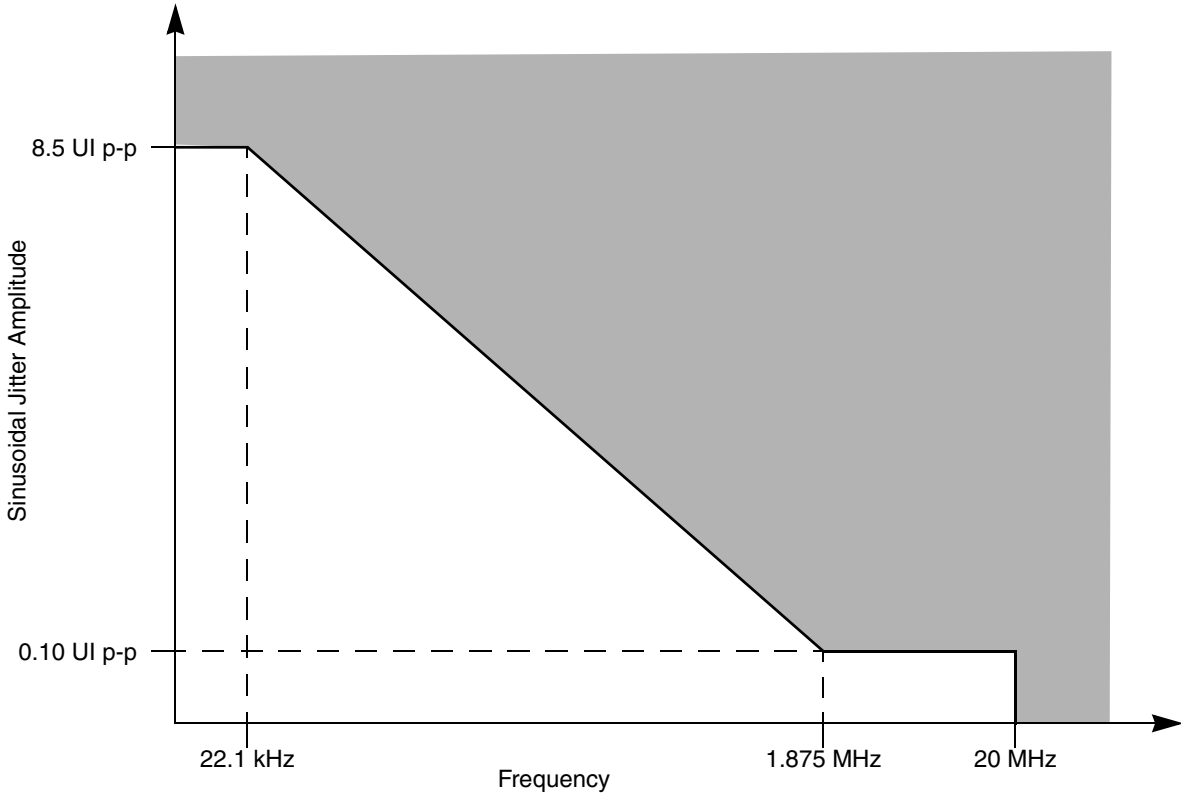

Figure 30. Single Frequency Sinusoidal Jitter Limits
- See Figure 30 for single frequency sinusoidal jitter limits.